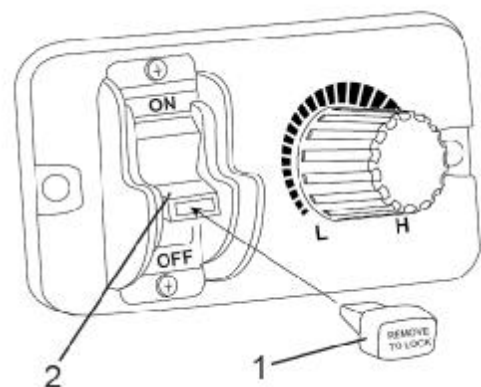

FIGURE 7
To lock the machine, remove the switch key (1) by pulling it straight out. See Figure 7. With the switch key removed, the switch will not operate.